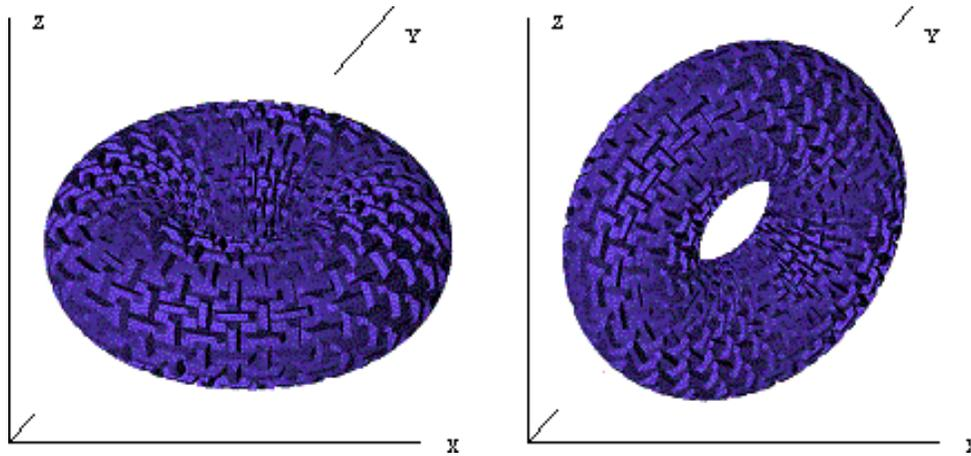

Figure 4. Orientation selection of the model
1. Reduce the deformation of the part during fabrication; QuickSlice will cut the STL file model into horizontal slices. Each slice is extruded as a single layer of material by the FDM hardware to create a physical model. So the part is built layer by layer in Z direction on a horizon base. Every layer will be dropped and bond on each other from a low “Z-level” to a high “Z-level”. As shown Figure 4, if the part is oriented in such a direction that is “narrow” on horizontal direction and large in Z direction, the part will have a salient deformation when the upper level is dropping and presses the lower level. For this consideration, we should orient the model so that the biggest dimension is in horizontal direction.